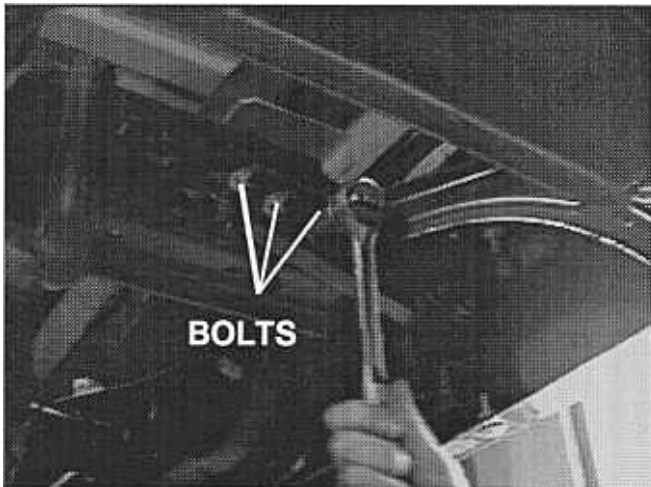

Figure 3
2. Remove six bolts securing bumper mounting brackets to frame (three bolts on each side). See Figure 3.